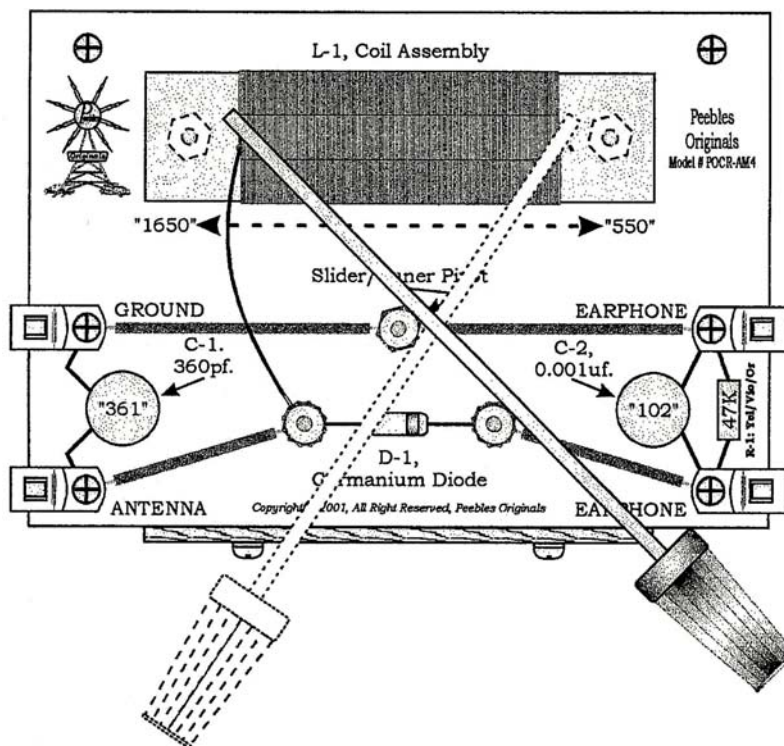

Figure 2
1. The circuit layout in Fig. 2 shows where to attach wires and circuit components. Note the orientation of the diode (indicated by the dark band). See Appendix C for an explanation of the encoding for resistor and capacitor values.
1. When the coating on the coil is completely dry, bolt it securely to the board as shown in Figs. 2 and 3.
2. Using the emory cloth, remove the insulation from the end of the magnet wire from the coil. Solder a lug to the unattached the wire where indicated in Fig. 2.
3. Turn the nut attached to the copper slider rod onto the pivot screw, as shown in Fig. 2. Stop when the rod moves snugly across the top of the coil. Check that the pivot screw remains rigidly mounted to the board.
1. Take your circuit to the antenna drop and attach the antenna and ground wires where indicated in Fig. 2.
4. Once you have located a station, attach leads from an oscilloscope to the “antenna” and “ground” terminals of the radio. Can you observe the amplitude modulation (AM) of the carrier frequency?